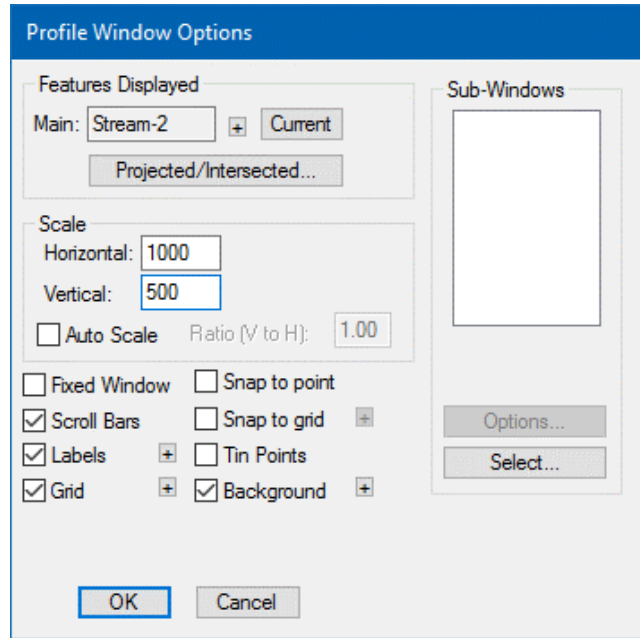

Figure 8-3: Profile Windows Options Dialogue Box
12. Turn on *Elevations* and *Grades* labels: *Profile* | *Profile Options* to open the *Profile Window Options* dialogue box (Figure 8-3).